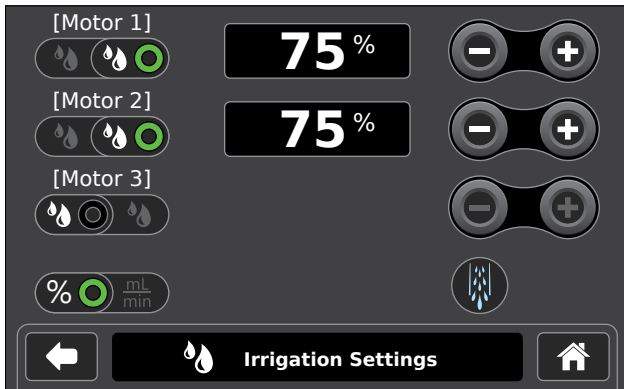

Figure 17 – Irrigation Settings Screen
2. Adjust settings as necessary (Figure 17).